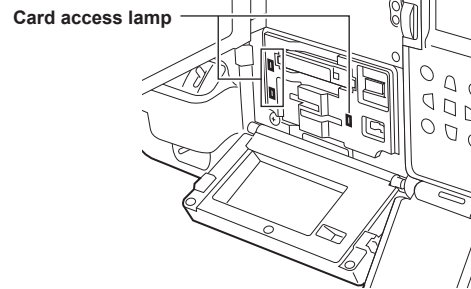

Fig. 2
- 5 Confirm that the card access lamp of the card slot that the memory card is inserted is illuminated in orange. (Fig. 2)**